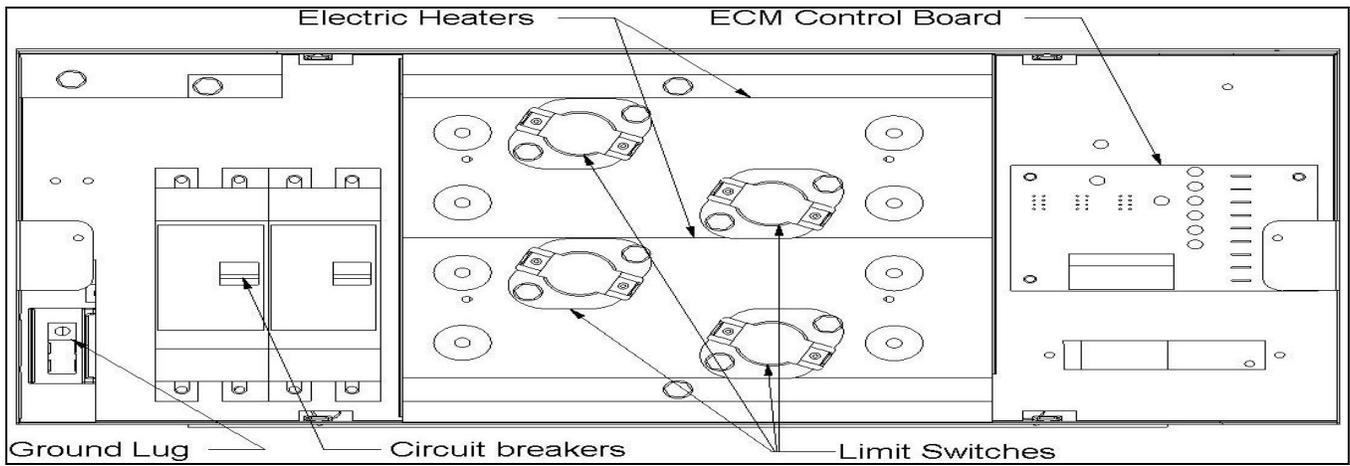
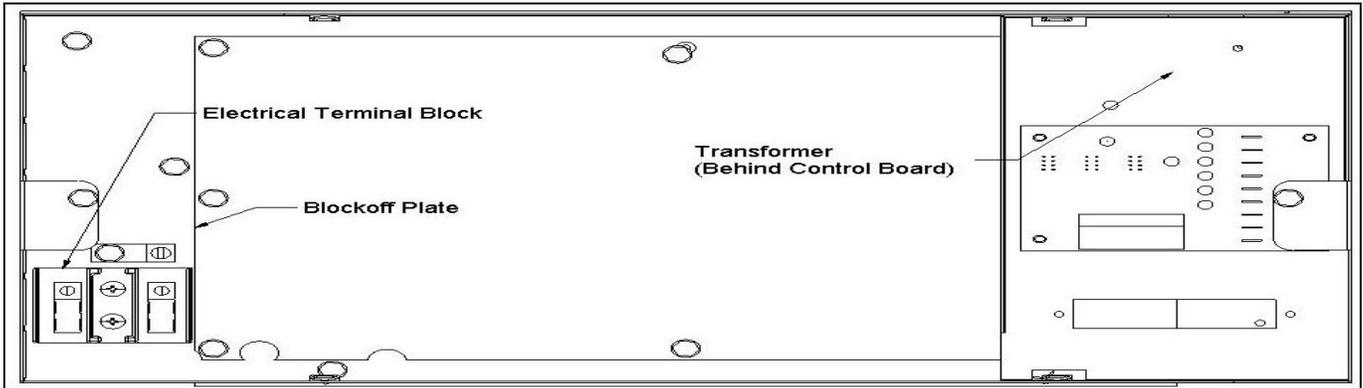

Figure 8: Component Locations – Electric Heat Control Box
Figure 9: Component Locations – No Heat Control Box
2. Remove the block off plate shown in Figure 9 and discard. Retain the screws, they will be used to secure the electric heater mount plate.
For circuit breaker models only - After the supply wiring has been connected to the circuit breakers you must remove the transformer and indoor blower motor wires from the terminal block and connect them to load side of circuit breaker #1. Refer to Figure 9 for terminal block location and Figure 8 for circuit breaker location.